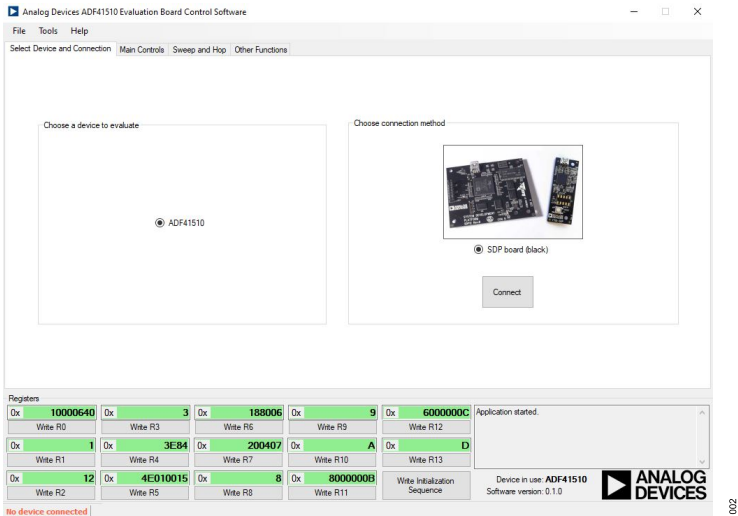

Figure 2. Software Front Panel Display, Select Device and Connection Tab
- 2. In the **Select Device and Connection** tab, click **Connect** (see Figure 2).
9. Select **ADF41510** and **SDP board (black)** in the **Select Device and Connection** tab (see Figure 2).